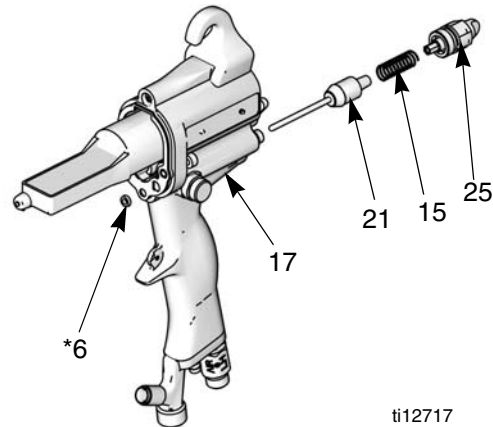

Fig. 21. Air Valve
3. Remove the fluid adjustment valve (25) from the handle (17). Remove the spring (15). See FIG. 21.